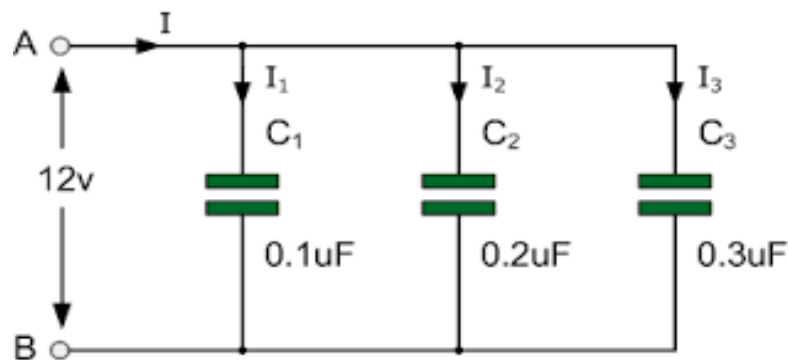

Figure 3: Capacitors in Parallel
1. Connect three capacitors on the bread board in the parallel combination as shown in Figure 3.